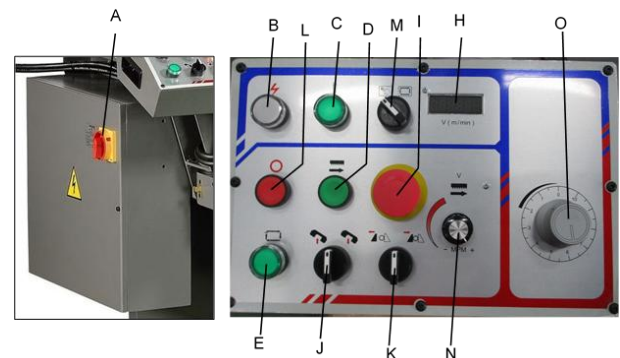
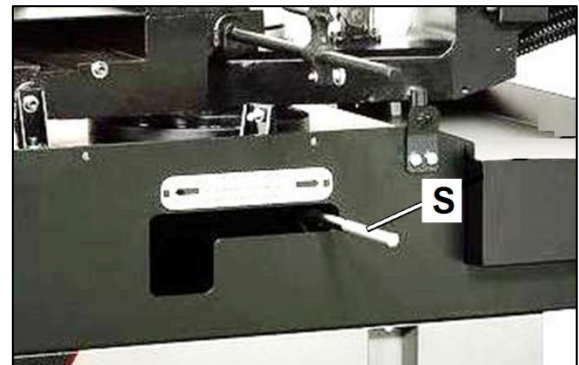

Figure 7-1: Machine Controls
Figure 8-1: Mitre Cutting Adjustment
- If the blade gets stuck in the cut, press the emergency stop button (I, Fig 7-1) immediately to switch off the machine. Open the vice slowly, remove the part and check that the blade or its teeth are not broken. If they are broken, change the blade.
Rotate knob (N, Fig 7-1) to set the blade speed.
Connect the machine to power source. Turn the main switch (A, Fig 7-1) on. The power lamp (B) will be lit.
1. Press button (C) to start the hydraulic pump.
1. Switch On Main power (A, Fig 7-1).
2. Press button (C) to start the hydraulic pump.
3. Use switch (M) to select manual mode
4. Use switch (J) to raise the saw bow.
6. Switch off Main power (A).
7. Un-clip saw bow, by rotating the lock lever (S, Fig 8-1) to the left.